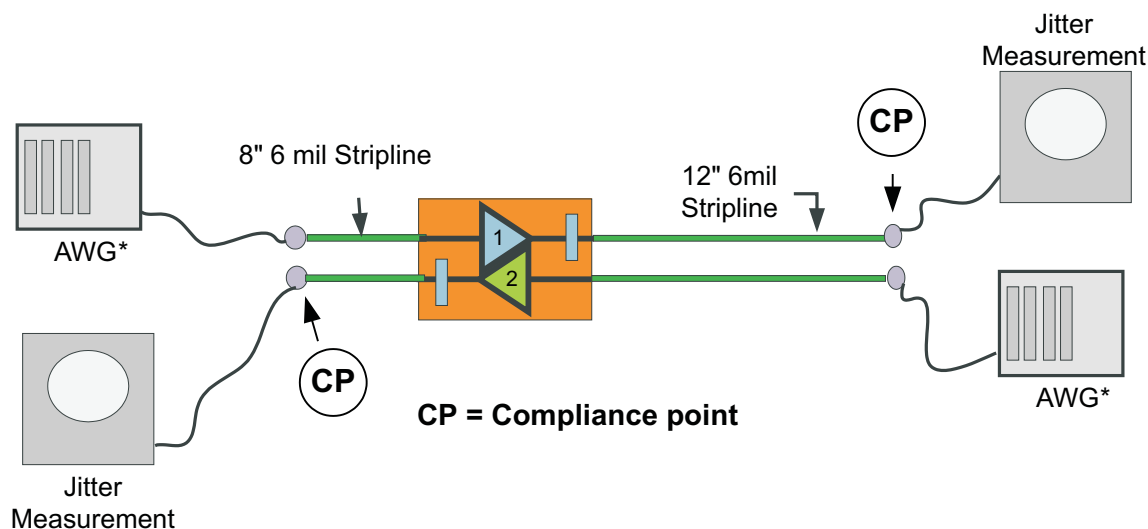

Figure 9. Jitter Measurement Test Condition
- (1) TJ = (14.1 × RJ_{SD} + DJ), where RJ_{SD} is one standard deviation value of RJ Gaussian distribution. Jitter measurement is at the SATA connector and includes jitter generated at the package connection on the printed circuit board, and at the board interconnect as shown in Figure 9.